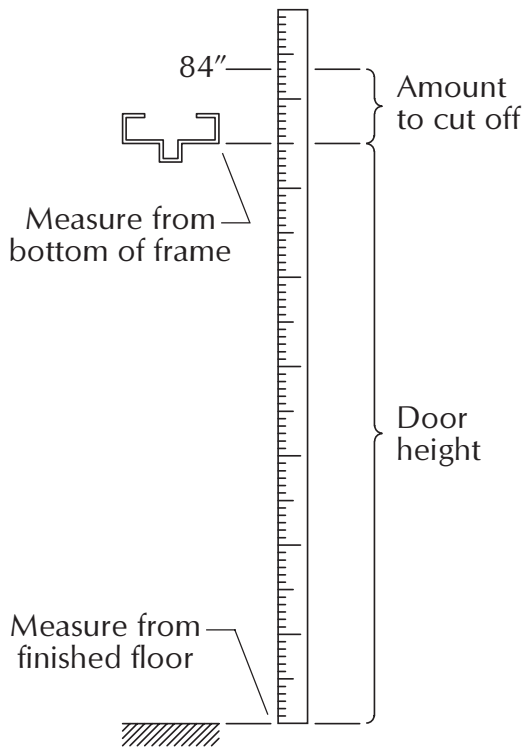

Figure 7-1
7.1. Find amount to cut off (Figure 7-1).